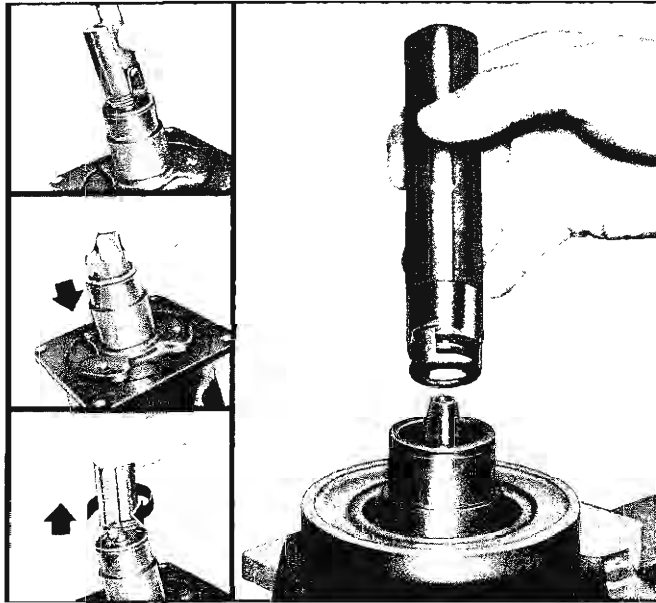

Fig. 35—Replacing Seal and “O” Ring
1. Engage seal onto the locking tangs of Tool J-9392 (fig. 35) and, with J-21303 installed over the end of the shaft to protect the seal “O” ring, carefully insert the seal and tool over the end of the shaft. Turn seal to engage the flat on the shaft, then remove the tool.
2. Coat a new “O” ring and the interior of the seal cavity, shaft and seal with clean refrigeration oil and, using Tool J-21508 as shown in Figure 35, install the “O” ring in its groove just above the seal (fig. 35). To install the “O” ring: place “O” ring on tool as shown in Figure 35, insert the tool fully into front head bore, press down slider, twist entire tool to seat “O” ring and then remove tool.